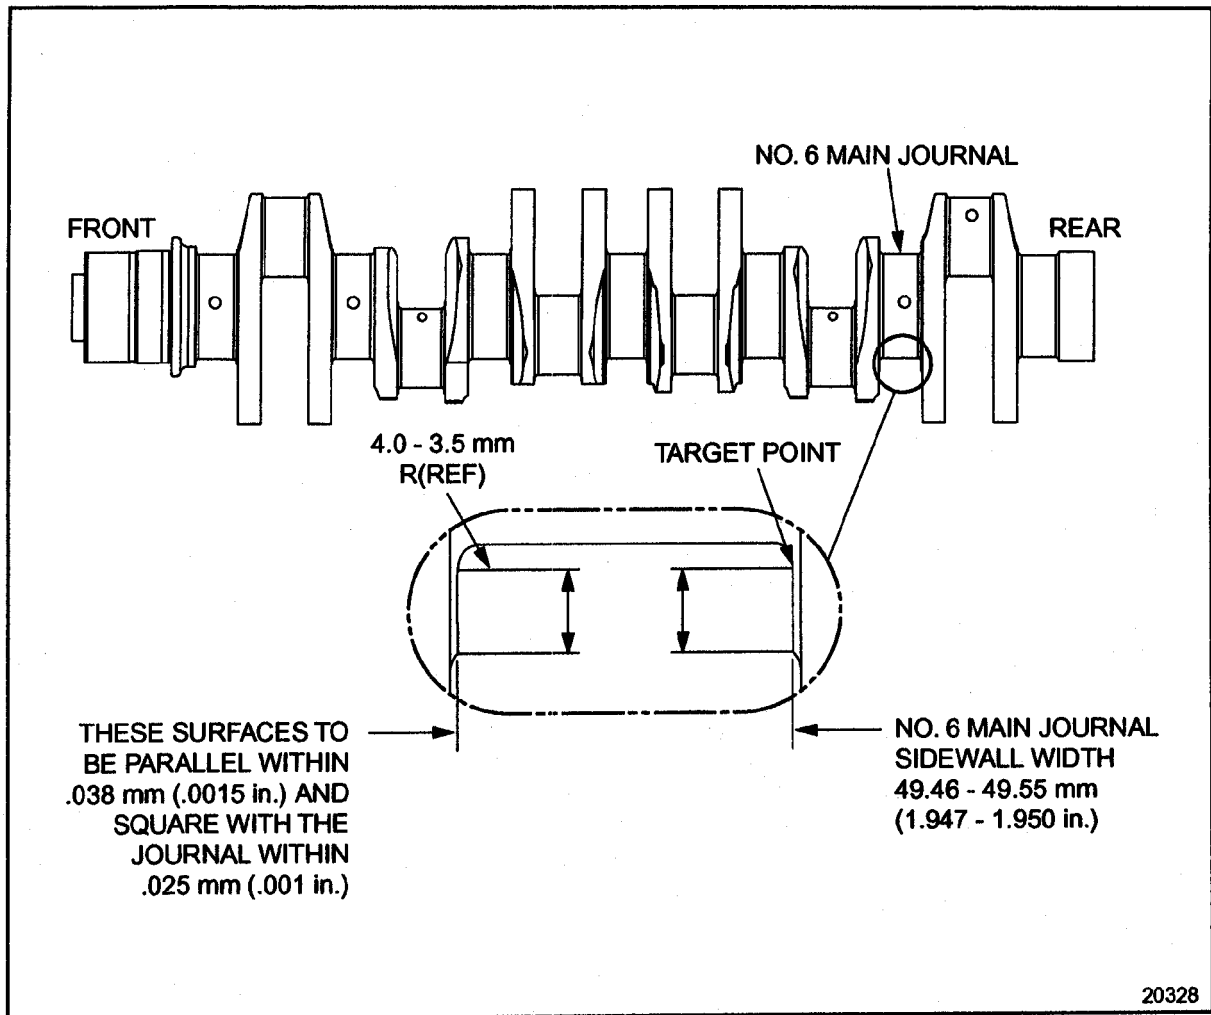

Figure 1-466 No. 6 Main Journal Thrust Wall Dimensions
- [c] If wear is 0.0508 mm (0.002 in.) or more, regrind to restore flatness to the thrust wall. See Figure 1-466.